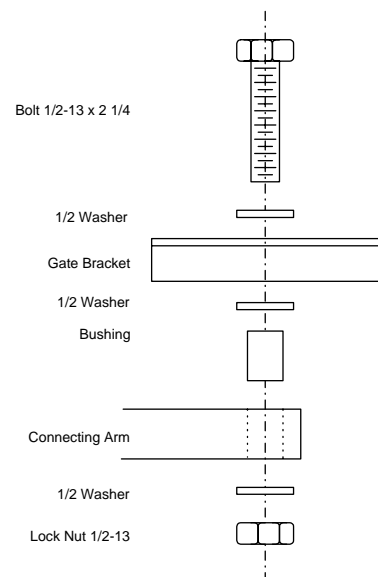

Figure 15
2. Once the crank arm assembly length is set, slide one end of the connector arm through the connector assembly and attach the other end to the gate bracket as shown in Figure 15. Attach the arm to the bottom side of the gate bracket.